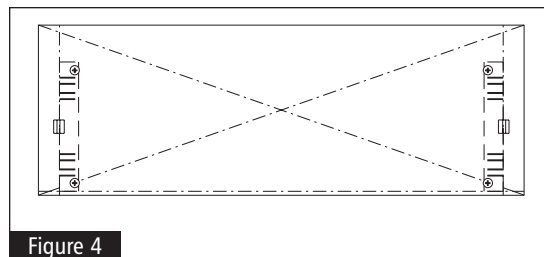

Figure 4
**4** Measure up 1/8" from bottom edge of drawer front and draw a line parallel with bottom edge of the drawer front. Locate one DDF Fastener Female on each side of the drawer front with the edges on the inside of the lines along the sides and bottom of the drawer front, oriented as shown. Drill 3/32" diameter pilot holes, 3/8" deep and attach with screws provided. See Figure 4.